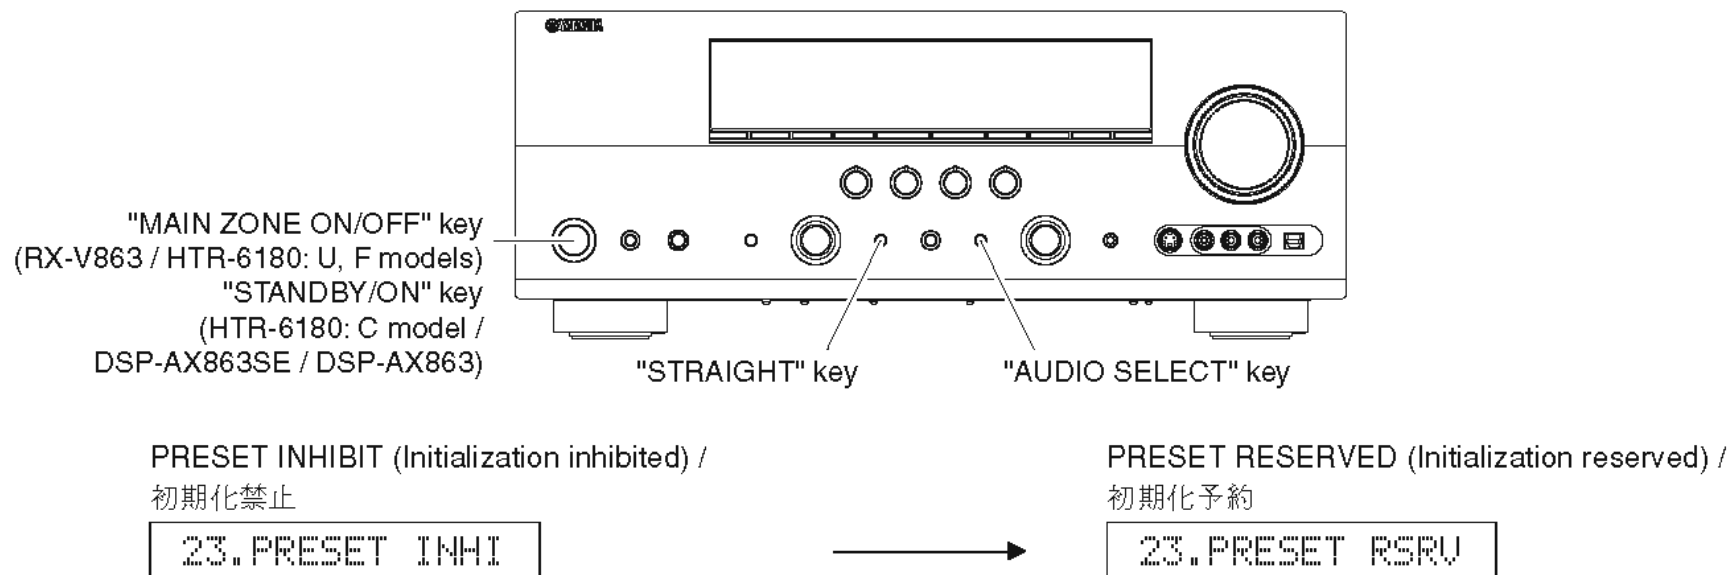

Fig. 4
2. Press the "MAIN ZONE ON/OFF" (RX-V863 / HTR-6180: U, F models) / "STANDBY/ON" (HTR-6180: C model / DSP-AX863SE) key while simultaneously pressing the "STRAIGHT" and "AUDIO SELECT" keys. (Fig. 4)
2. "STRAIGHT"キーと"AUDIO SELECT"キーを押しながら、"STANDBY/ON"キーを押し、ダイアグを起動します。(Fig. 4)